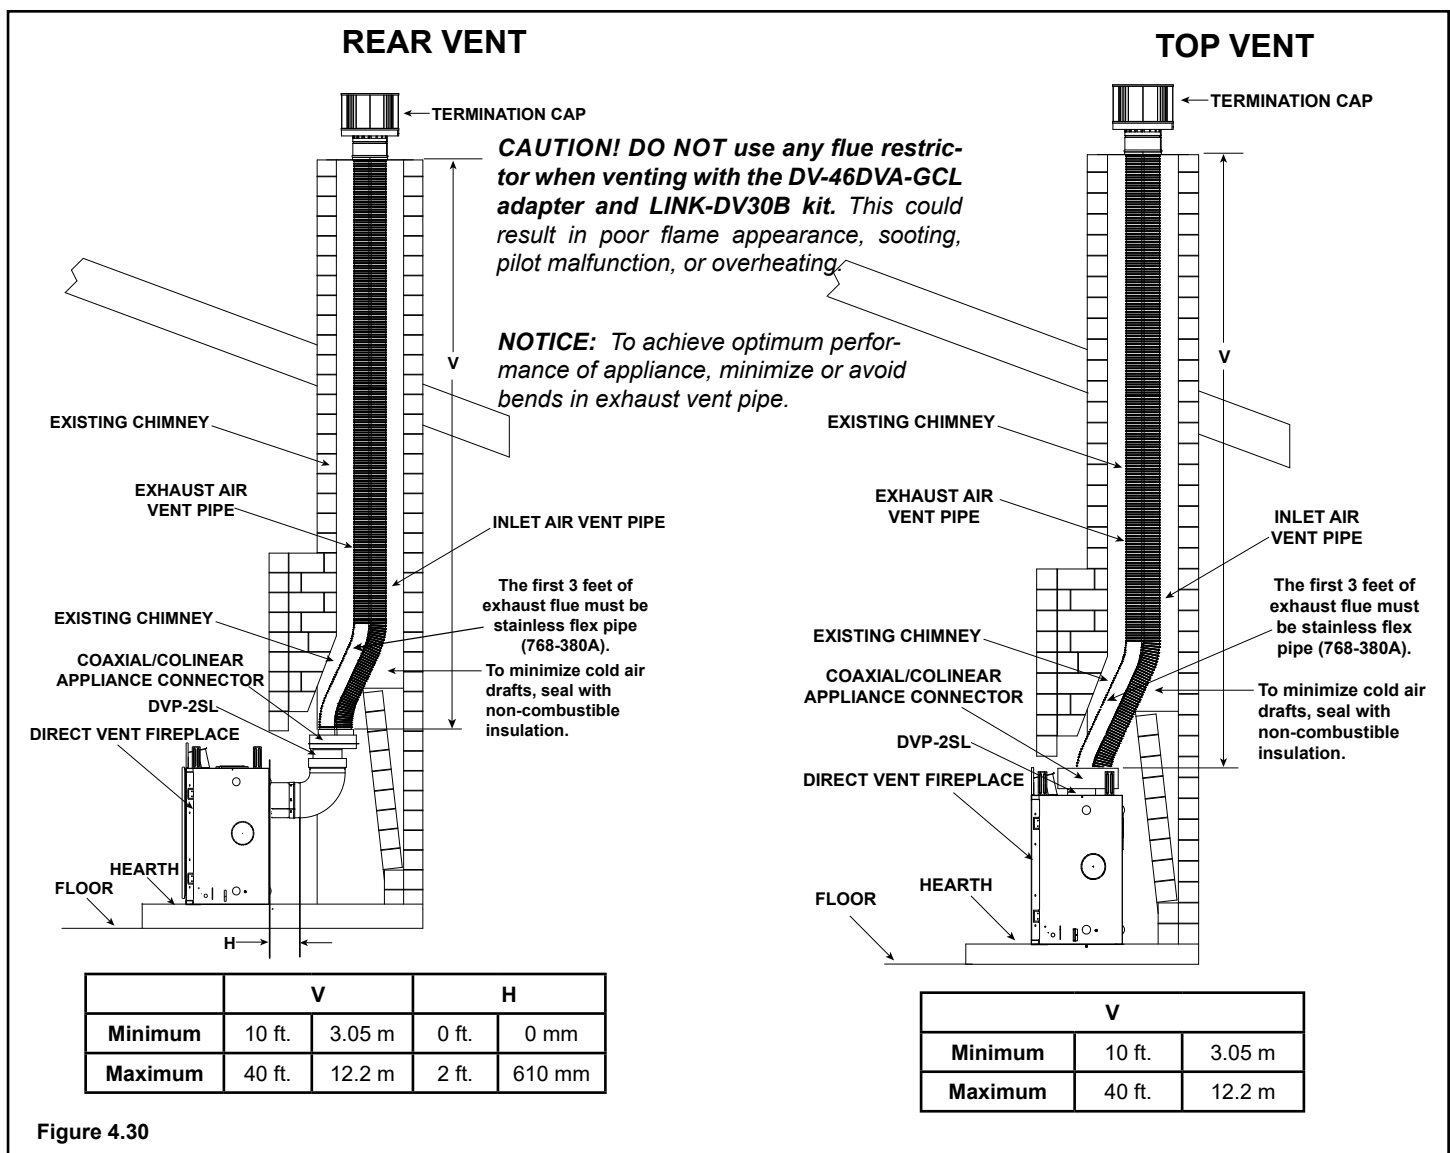

Figure 4.30
- Remove top seal cap and insulation if equipped. See Section 6, "Appliance Preparation." Attach the DVP-2SL to the 8 inch starting collar. Follow installation instructions included with DVP-2SL kit. Attach the DV-46DVA-GCL adapter to the appliance starting collar with 3-1/2 in. self-tapping screws. See Figure 4.30.
- Remove the rear seal cap and insulation if equipped. Connect the DVP-2SL adapter to the vertically positioned elbow. Follow installation instructions included with DVP-2SL kit. Secure DV-46DVA-GCL adapter to DVP-2SL with 3-1/2 in. self-tapping screws. See Figure 4.30.